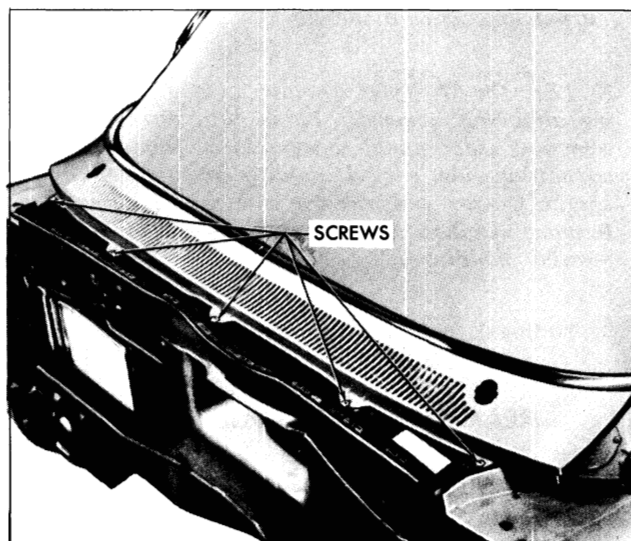

Fig. 2-4 Air Intake Grille
3. Remove air intake grille attaching screws (Fig. 2-4).